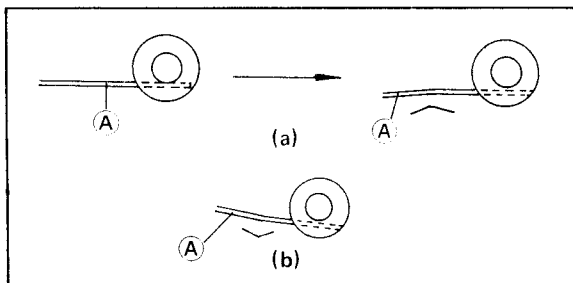

Fig. 5-8
7. If the measured supply loading back tension is greater than 50 grams, bend the supply loading idler lever at point (A) little by little as shown in Fig. 5-8(a).
8. If the measured supply loading tension is less than 40 grams, bend the supply loading lever at point (A) little by little as shown in Fig. 5-8(b).